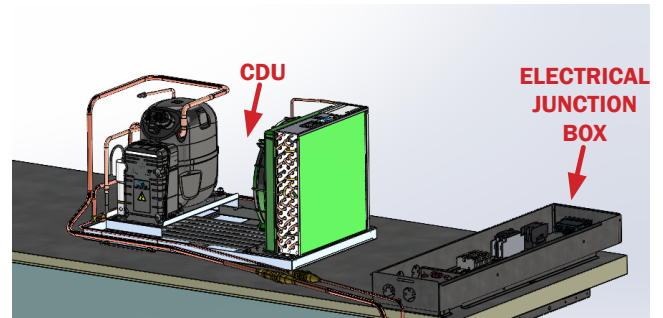

Fig. 58 Rear view of electrical junction box location
5. Place the junction box on the canopy to the left of the condensing unit, feeding the harnesses through the bottom-rear of the box. (Fig. 58).